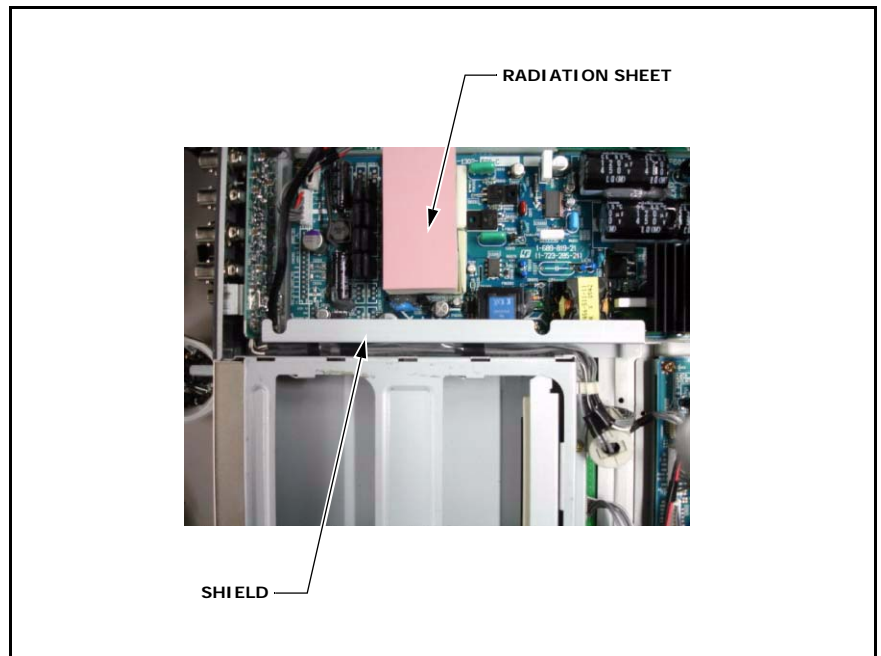

Figure 7
10. Attach the new shield, then place the harness in its original location between the Q and B boards, securing the harness with a clamp. (See Figure 7.)
11. Attach the new radiation sheet to T6000 and T6002 on the G board. (See Figure 7.)
2. Attach a radiation sheet to T6000 and T6002 on the G board. (See Figure 7.)